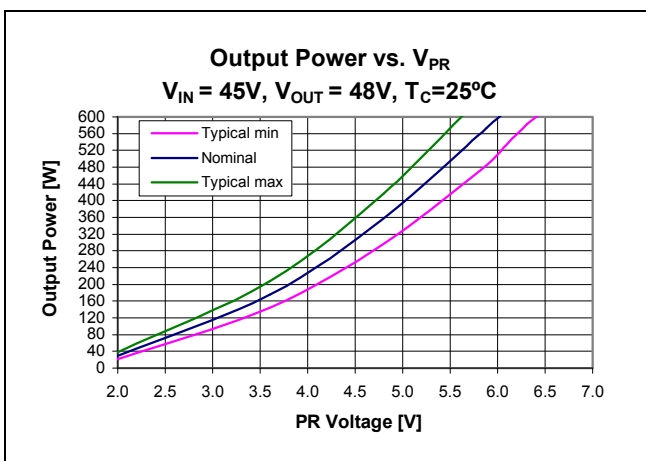

Figure 21 – Output Power vs. V_{PR} ; $V_{IN}=45V$, $V_{OUT}=48V$, $T_{CASE}=25^{\circ}C$
Control node (PR) is the input to the control node which determines the powertrain timing and ultimately the module output power (Figure 21). An internal 0.5mA current sink is always active. The bi-directional buffer between PR and the control node has two states. In normal operation, PR will be above the 0.79V switching threshold, and will drive the control node through the buffer. An internal 7.4V clamp determines the maximum output power that can be requested of the modulator. When PR falls below 0.79 V, the converter will stop switching. An internal circuit clamps the modulator input control node to 0.79 V, and a buffer will source up to 2.5 mA out of the pin at that clamp level. For this reason, the output impedance of the amplifier driving PR must be taken into account. A rail-to-rail operational amplifier with low output impedance is always recommended.